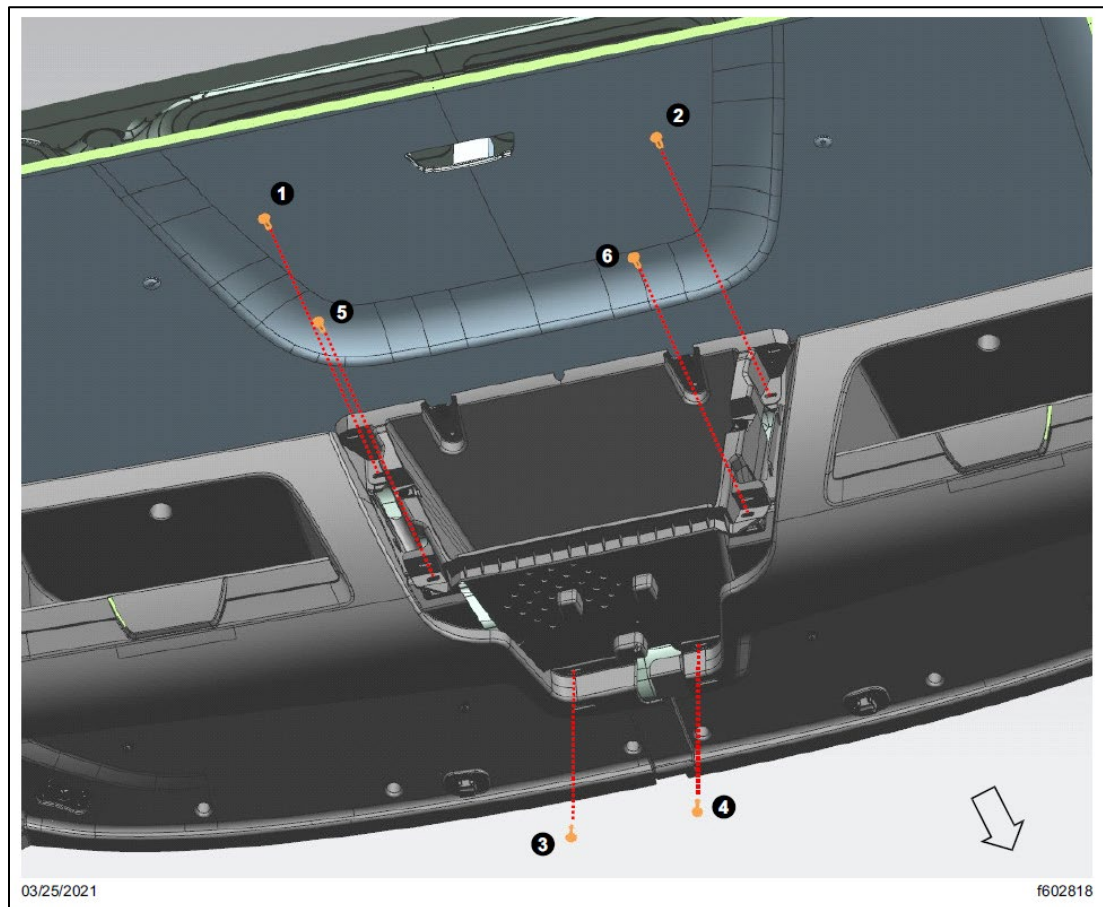

Fig. 27, Attach the Center Overhead Storage Bin to the LH and RH Side Storage Cabinets
- 7.2. Install the six fasteners that attach the center overhead storage bin to the LH side and RH side overhead storage assemblies. Tighten the fasteners 5 to 7 lbf.ft (6 to 9 N.m) as per the sequence shown in Fig. 27.